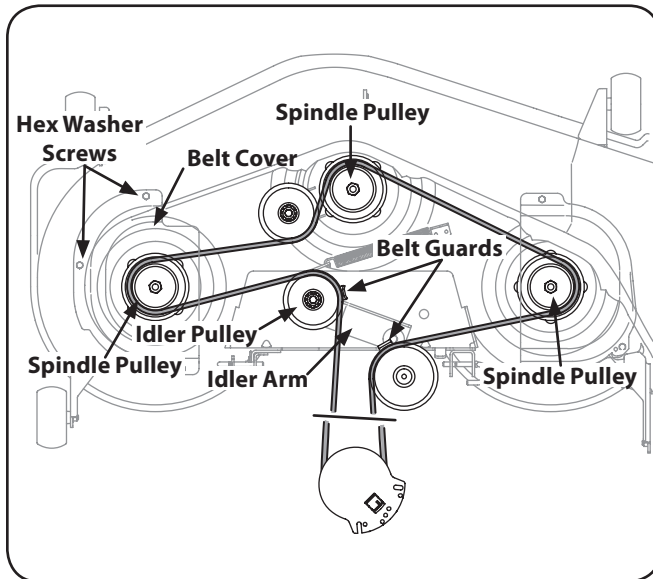

Figure 7-11
- Remove the hex washer screws securing the belt covers to the deck. See Figure 7-11.
- Install the new belt around the spindle pulleys as shown and reinstall the belt covers. See Figure 7-11.